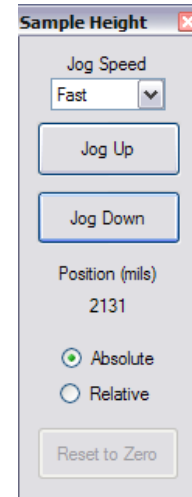

Figure 2.2 Sample Height Adjust Window
3. Adjust the sample/grating height using the Sample Height Adjust Window (see **Figure 2.2**) so that there is adequate fringe contrast on the sample. It may also be necessary to adjust the camera iris settings to get adequate brightness on the sample. Use the highlight saturated and dark pixels options to avoid getting saturation in the fringe image. These can be activated by going to the Camera Control window described in **Section 2.3.2**.